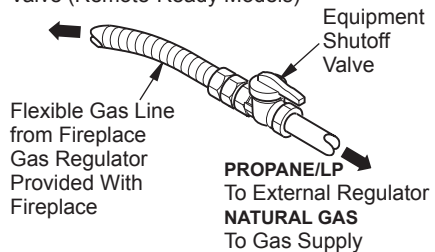

Figure 23 - Attaching Flexible Gas Line to Equipment Shutoff Valve
3. Apply pipe joint sealant lightly to male threads of gas connector attached to flexible gas line/equipment shutoff valve (see Figure 23).